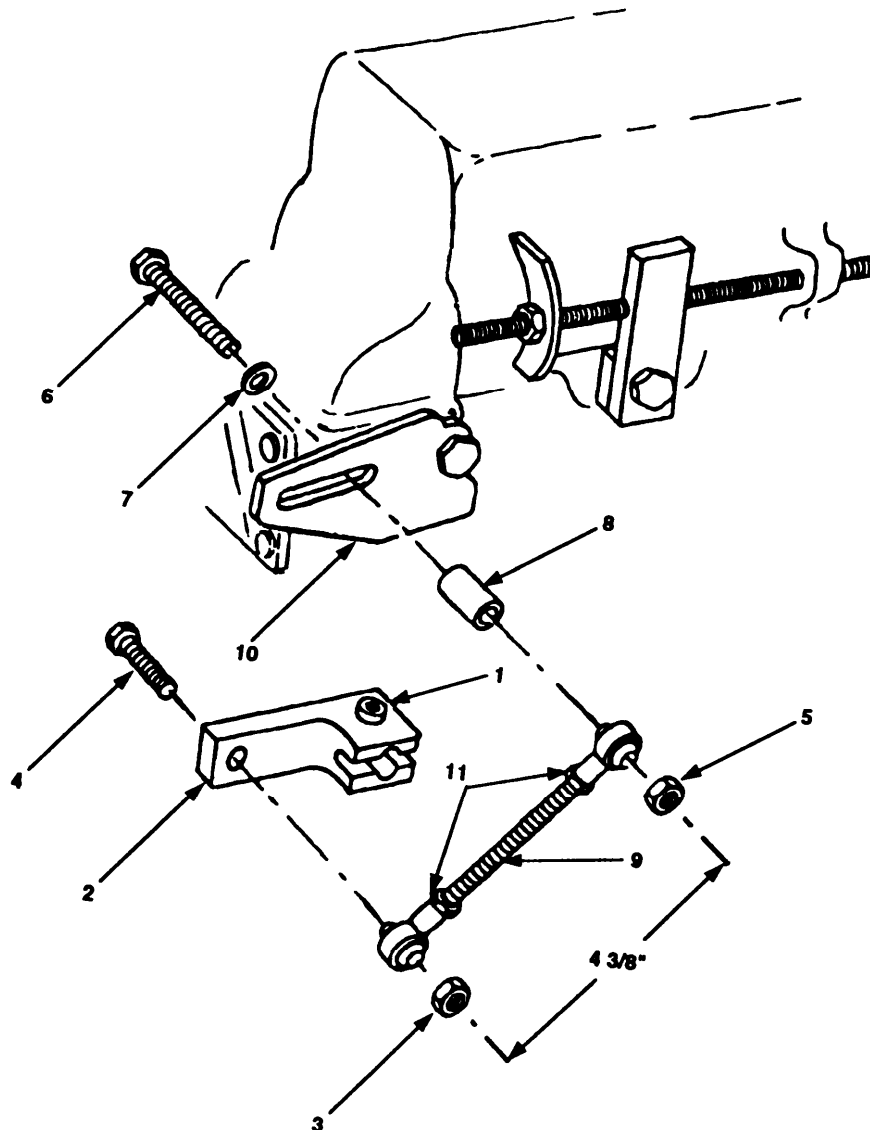

Figure 4-59. Actuating Rod and Actuating Lever Maintenance
- a. Loosen socket head screw (figure 4-59, 1) in actuator lever (2).
- b. Remove lock nut (3), bolt (4), and actuator lever (2).
- c. Remove lock nut (5), bolt (6), washer (7), spacer (8), and actuating rod (9) from shutdown lever (10).